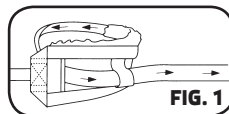

FIG. 1
1. Feed the strap at the narrow end of the triangular cuff through the horizontal slot in the wide end of the cuff. Continue threading the strap through the loop located on the outside of the device (fig. 1).